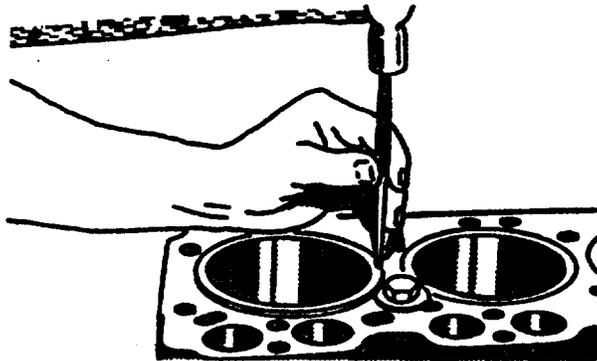
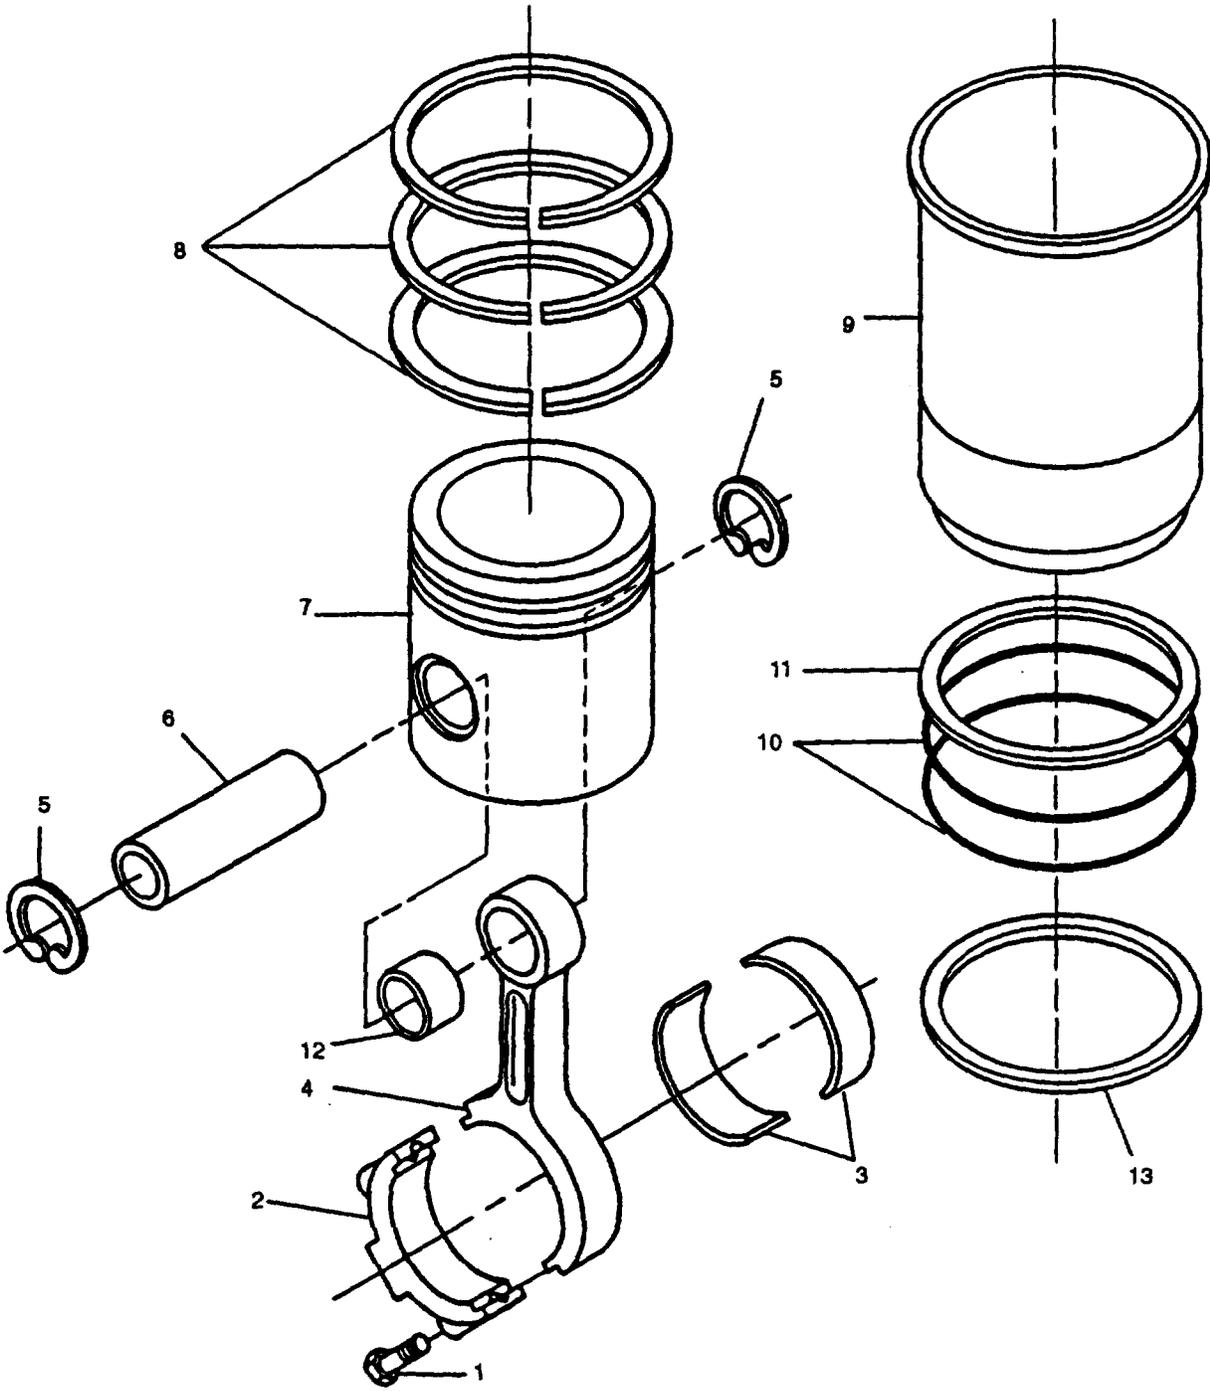
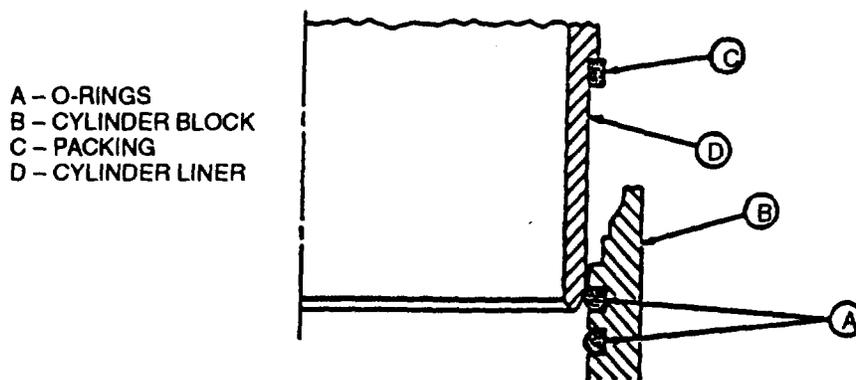

FIGURE 3-123. Marking Cylinder Liners
FIGURE 3-124. Pistons, Connecting Rods, and Cylinder Liners
FIGURE 3-126. Cylinder Liner O-Rings and Packing
- (1) The crosshatch honing pattern is not visible immediately below the top ring turn around area.
- (2) Liners are pitted or contain deep vertical scratches that can be detected by the fingernail.
- (3) No further inspection is required if any one of the above conditions are found.
Keep bearing inserts (3, FIGURE 3-124) with their respective rods (4) and caps (2). Mark rods (4), pistons (7), and caps (2) to ensure correct assembly in same location.
- l. Remove bolt (1) securing bearing cap (2) to connecting rod (4); remove cap (2) and bearing inserts (3).
- c. Number cylinder liners (9, FIGURE 3-124) and pistons (7). Stamp front of liner to assure correct assembly. Do not stamp liner flange; stamp on fire dam only (raised part of liner), refer to FIGURE 3-123.
Each cylinder liner (9, FIGURE 3-124) must be reinstalled in cylinder bore from which it was removed. Always keep matched pistons and liners together.
- e. Remove cylinder liner O-rings (10, FIGURE 3-124) from grooves in engine block. Also remove packing (11) from cylinder liner (9), refer to FIGURE 3-126. Discard -rings and packing.
- a. Remove piston rings (8, FIGURE 3-124) from piston (7) using piston ring expander. Discard piston rings.
- b. Remove two retaining rings (5) and remove piston pin (6). Discard retaining rings.
- c. Separate piston (7) and rod (4). Keep these parts in place with their respective cylinder liner (9).
- p. Install pin (6, FIGURE 3-124) through piston.
- (1) Pin should pass through piston using only light thumb pressure.